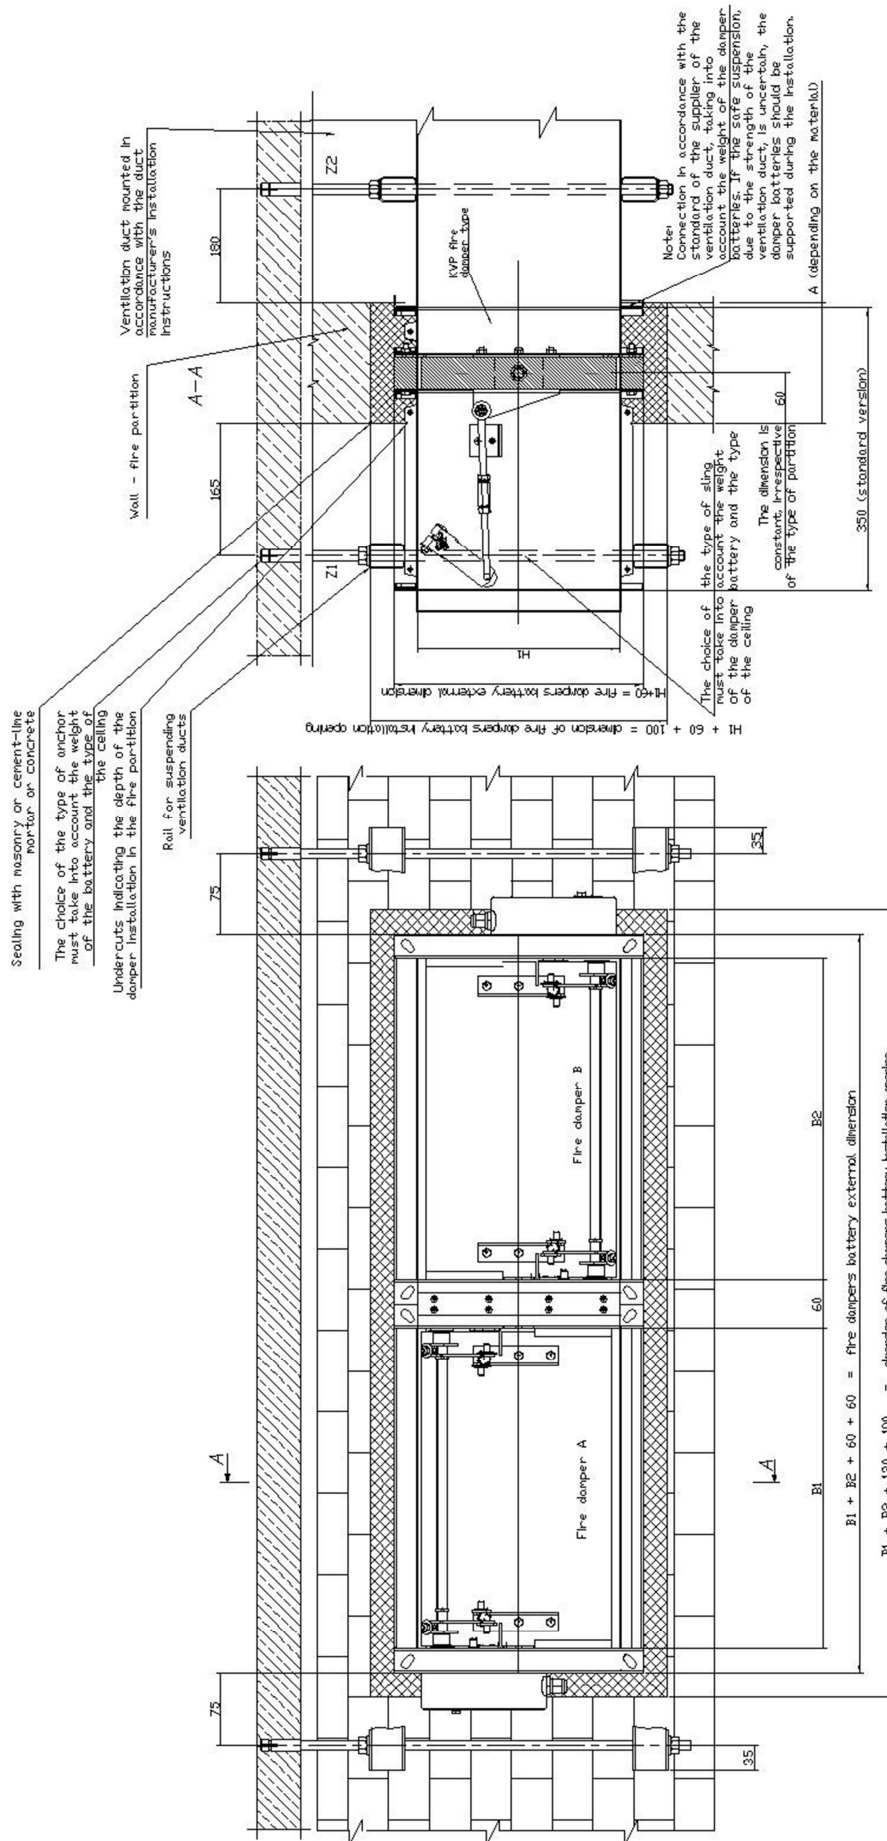

Figure 16. Installation of battery consisting of two fire dampers KWP-O-Ex in horizontal arrangement in wall
- For vertical battery consisting of three KWP-O-Ex fire dampers: $(B1+120) \times (H1+H2+H3+240)$ (Figure 16),